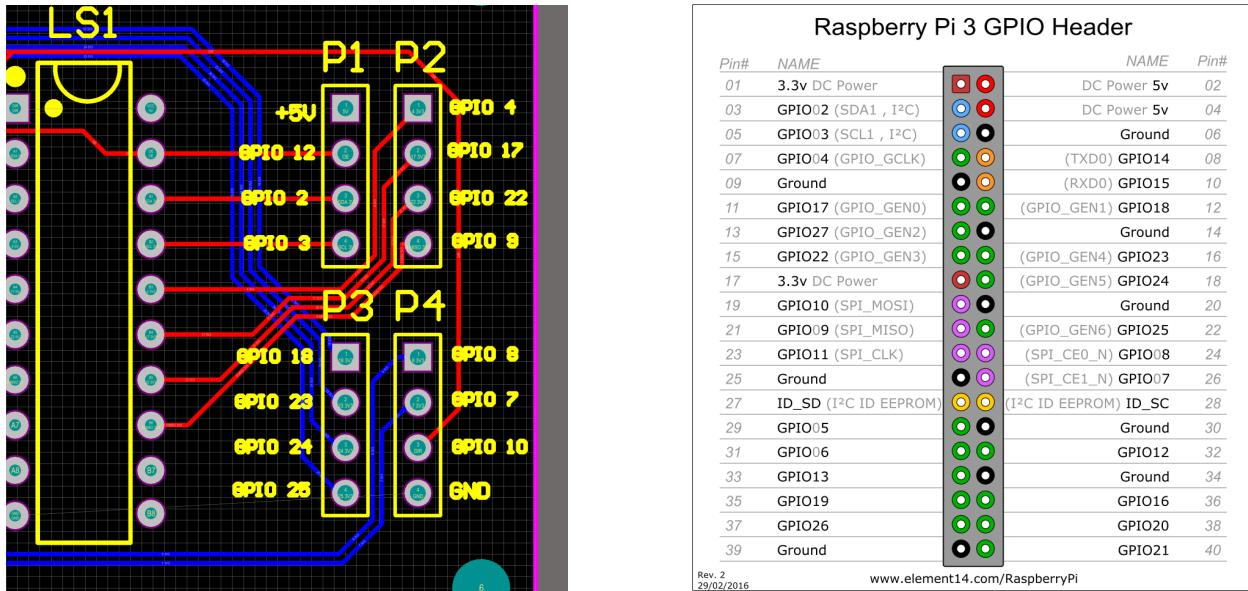

Figure 10: Raspberry pi to Logic Shifter board
2. You need to run connections to the board now from the Raspberry Pi. Figure 10 shows which pins on the board are connected to which pin on the Raspberry Pi, with the exception of the purple wire, which will be using to test the signals and drive it from the 3.3V DC power pin on the Raspberry Pi. Figure 4 shows which of these we will need to start connecting the board to test.
The Logic Shifter PCB is not included in the adafruit project, the following will be descriptions as to how to include that in the wiring and routing. Figure 10 shows the pin connections on the Logic shifter, labeled with which pin they connect to on the Raspberry Pi. We suggest putting the logic shifter board in the 3D printed head, and routing the wires through the body and up through the pvp pipe "neck".
****Note**** In Figure 10 the pin labels on the board (left) correspond to the pin NAME not the pin number. So pin 12 is the pin NAME GPIO 12, and **Not** pin#12